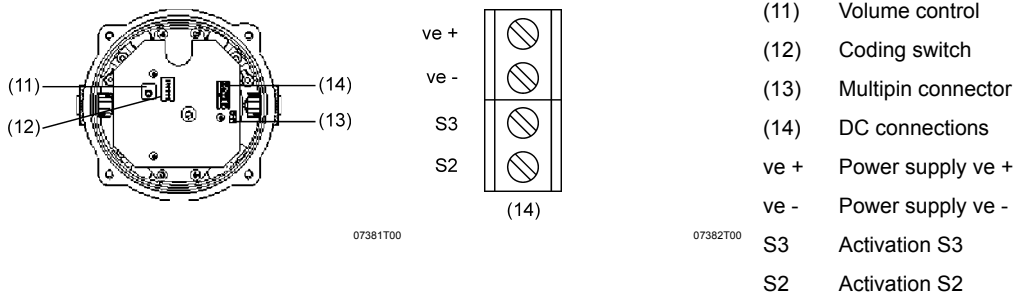
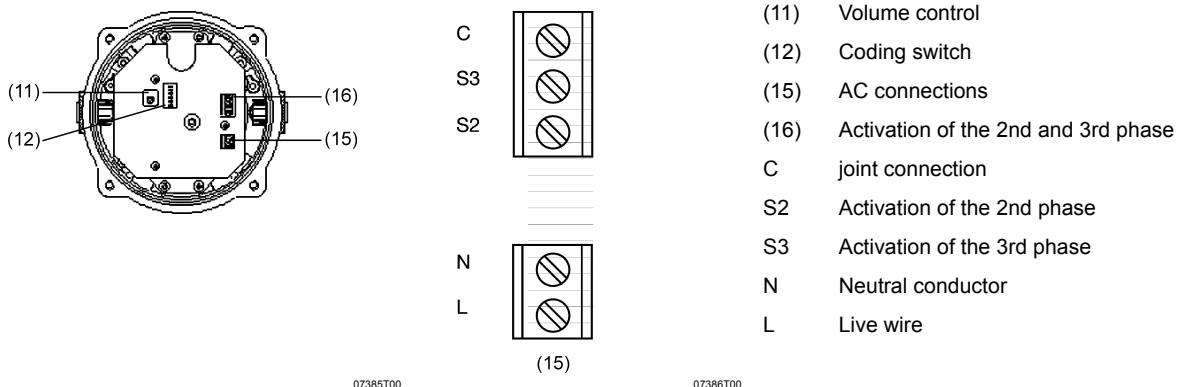
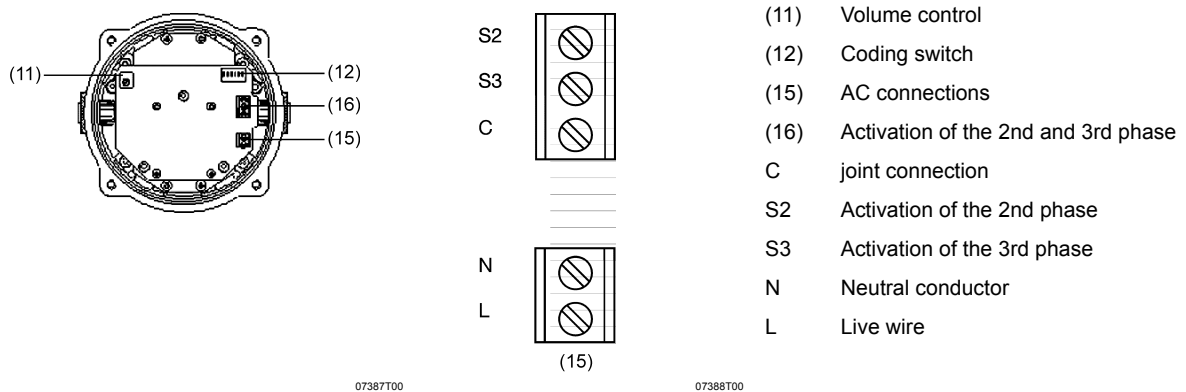

Fig. 5: Connections and terminal assignment of DC horn 8493/11-12
Fig. 7: Connections and terminal assignment of AC horn 8493/11-12
Fig. 8: Connections and terminal assignment of AC horn 8493/11-11
The horns can produce 32 different tones that can be selected for the 1st alert phase. For each of these 32 tones you can select the 2nd and 3rd alert phase. The tones are selected by means of a coding switch (12) (Fig. 5 and Fig.7).
All horns except for the 12 V DC devices are equipped with volume control (11) (see Fig. 5 to Fig. 8).